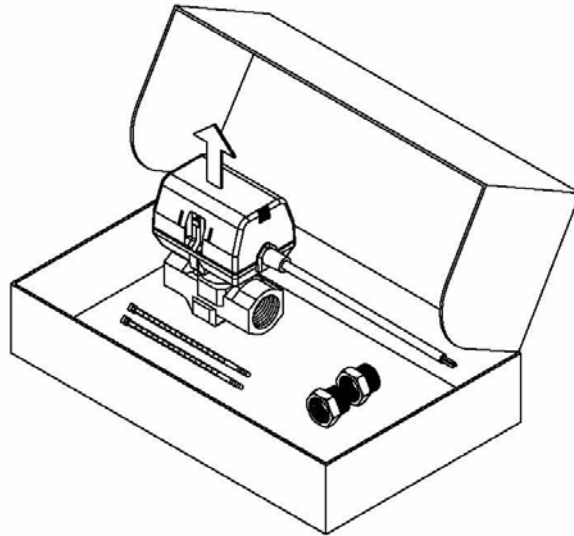

Figure 70
Step 1: Remove the Inlet Shut-off Valve and its components from their packaging, as shown in Figure 70.